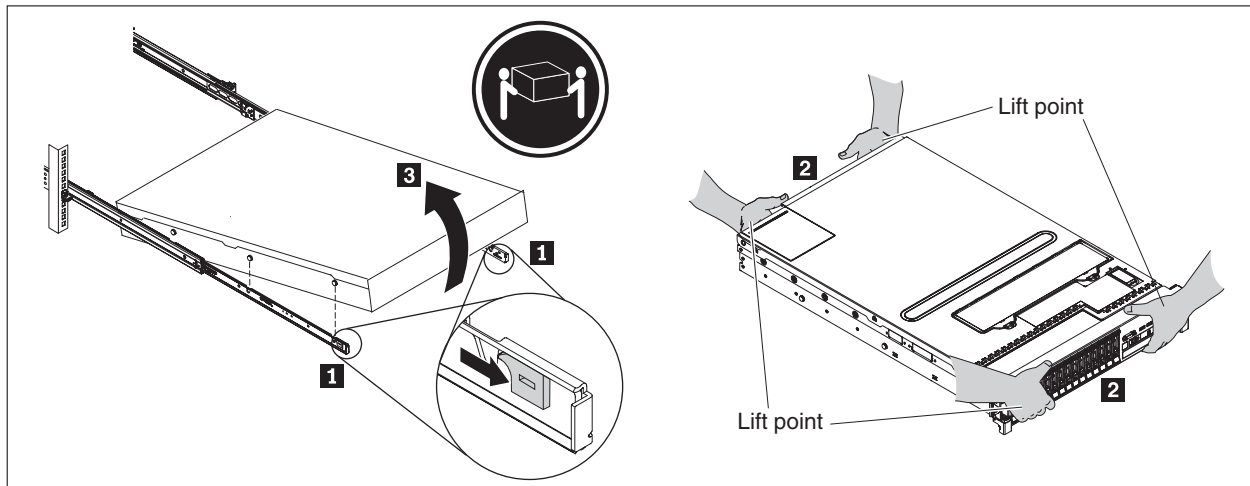

Figure 20. Unlatching and rotating the front of the appliance
Note: Make sure two people lift the appliance, with hands positioned as illustrated by **2** in Figure 20 on page 52.
1. Unlatch and rotate the front of the appliance, as shown in Figure 20 on page 52.